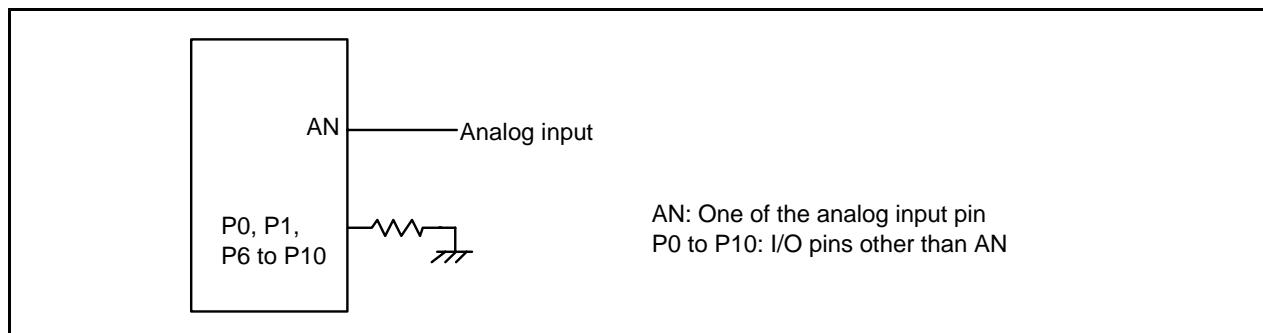

Figure 27.2 A/D Accuracy Measure Circuit
2. Flash memory rewrite disabled. Except for the analog input pin, set the pins to be measured as input ports and connect them to V_{SS} . See Figure 27.2 "A/D Accuracy Measure Circuit".
3. Flash memory rewrite disabled. Except for the analog input pin, set the pins to be measured as input ports and connect them to V_{SS} . See Figure 27.2 "A/D Accuracy Measure Circuit".